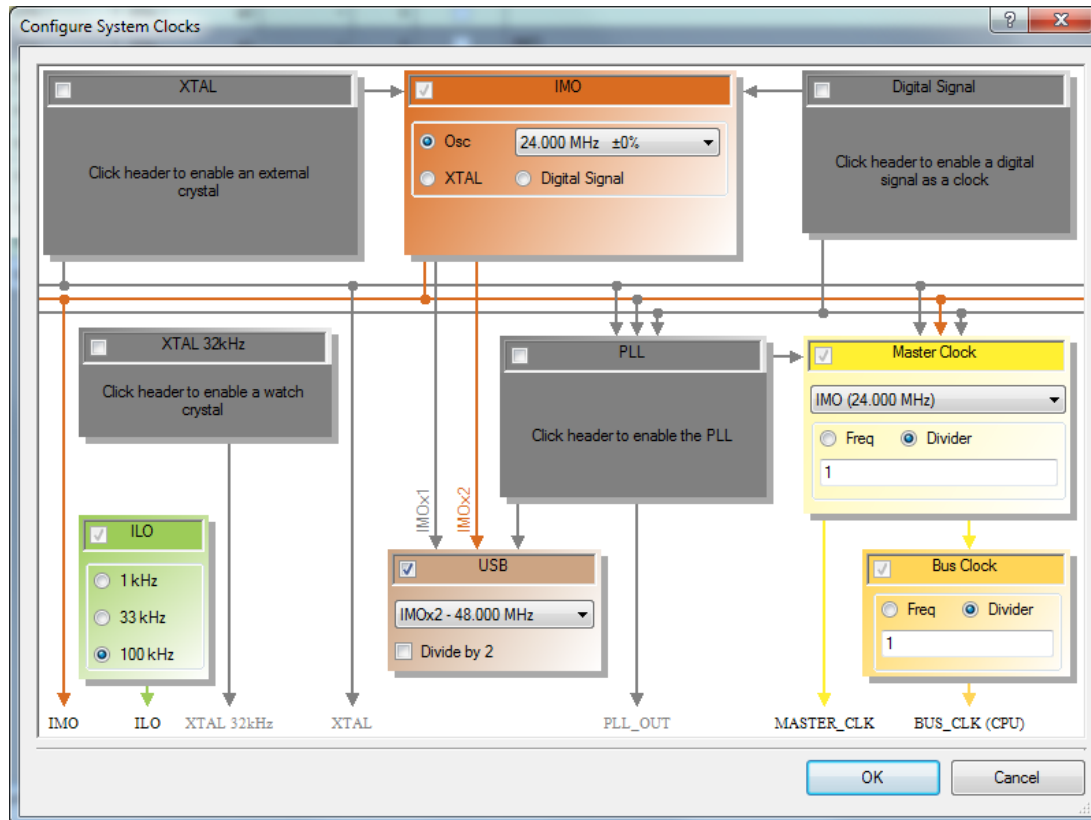

Figure 4: Configuring system clocks for USB (option A)
- a. Change IMO to be 24 MHz, disable the PLL, change Master Clock to use IMO, and enable USB and have it use IMOx2. This option is shown in Figure 4.